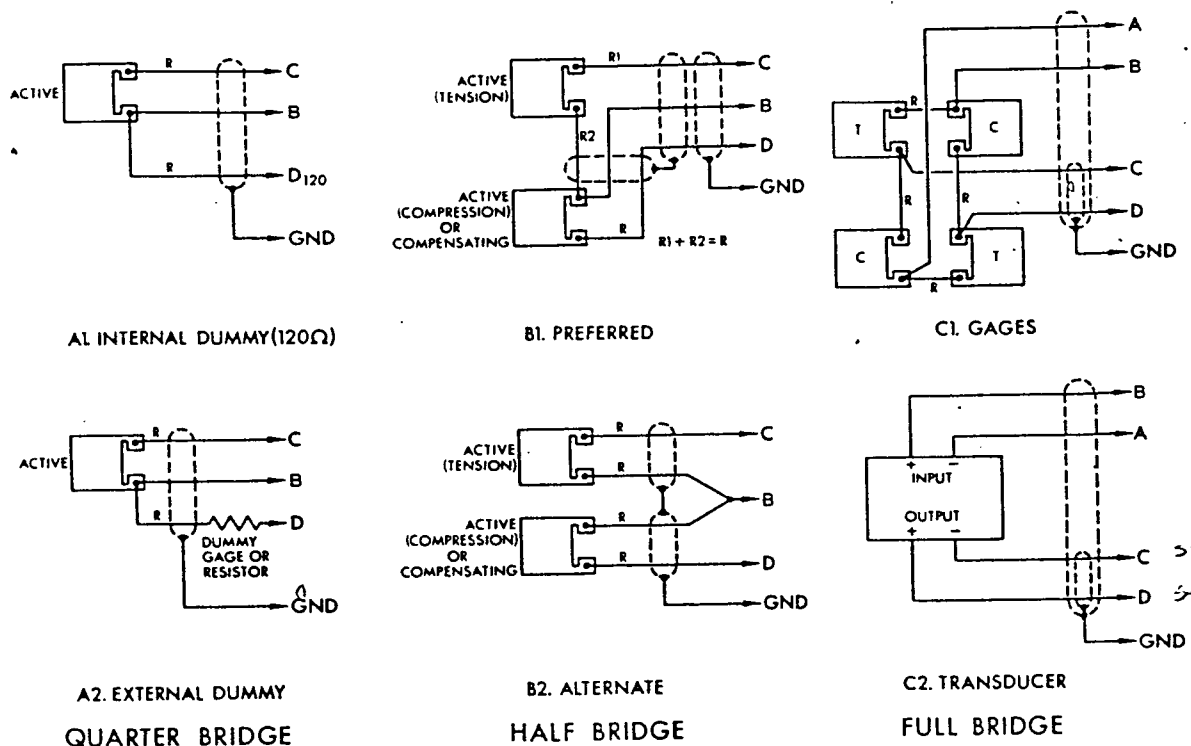

Fig. 1: Input Circuits
- Binding Posts** These are the input connections for the instrument. A and B are bridge power, C and D are for bridge output (or amplifier input). A half-bridge would be connected between C, B, and D (with the common lead to B). D120 is used for quarter-bridges, in conjunction with C and B. GND is case ground (not connected to circuits). For details see Figure 1.
- 2.3 Connect the input to the instrument in accordance with Fig. 1. Note that the "tension" or "compression" designation simply indicates the direction of strain at that gage position which will yield a "+" (right) deflection on the Meter or positive voltage output at the output jacks.
a) In the quarter-bridge circuit, *always* use the 3-leadwire circuit shown in Fig. 1, rather than the more obvious 2-wire circuit.